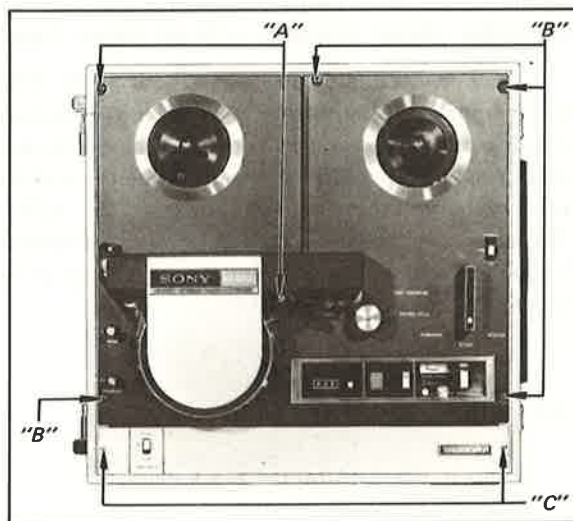

Fig. 3-2. Removal of control and reel panels
5. Loosen the two screws "A"* and remove the four screws "B" as shown in Fig. 3-2.
7. Remove the two screws "C" as shown in Fig. 3-2.